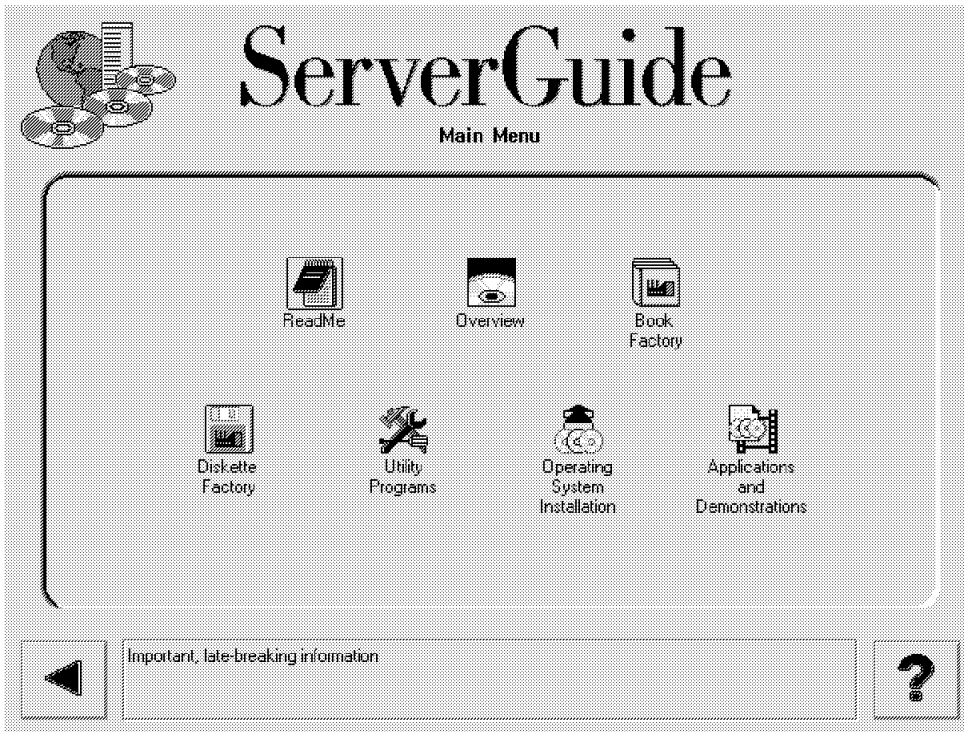

Figure 48. ServerGuide 3.0 Main Menu
5. At this point, the main menu is displayed (Figure 48 on page 74).
From the main menu (Figure 48 on page 74), you can select a number of different options: